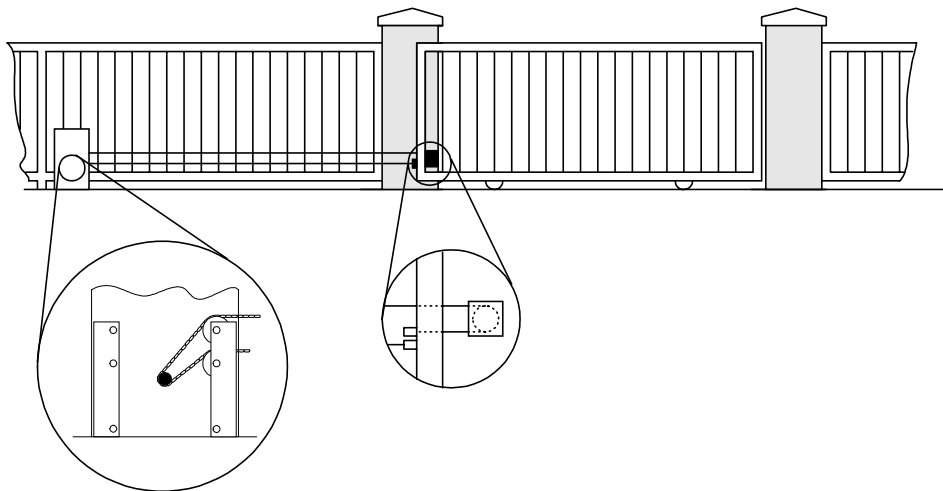

Figure 18
3. Route the chain through the gate operator: over the chain guide idlers and around the drive sprocket (Figure 18), and around the idler assembly.